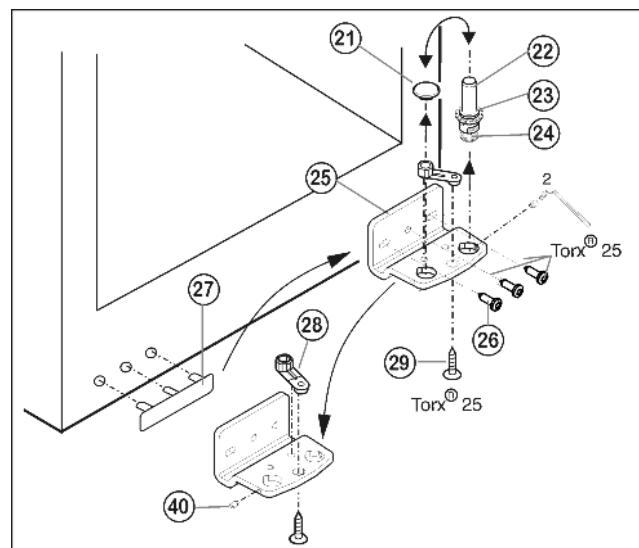

Fig. 7
- ▶ Using the accompanying Allen key, unscrew the threaded pin Fig. 7 (40) by about 1 turn.
- ▶ Turn and lift out the bearing pin Fig. 7 (22) together with the washer Fig. 7 (23) and adjustable-height foot Fig. 7 (24).
- ▶ Lift out the stopper Fig. 7 (21).
- ▶ Unscrew Fig. 7 (26) the turn hinge Fig. 7 (25).
- ▶ Fully unscrew the threaded pin Fig. 7 (40) and screw it in on the opposite side, at the turn hinge, until it is flush outside with the turn hinge.
- ▶ Unscrew Fig. 7 (29) the bearing element Fig. 7 (28), transfer it to the opposite location hole of the turn hinge and screw it firmly into place.
- ▶ Re-insert the stopper Fig. 7 (21) into the other hole.
- ▶ Carefully lift off the cover on the handle side Fig. 7 (27) and transfer it to the opposite side.
- ▶ Screw the turn hinge Fig. 7 (25) firmly into place on the new hinge side, possibly using a cordless screwdriver (with 4 Nm).
- ▶ Screw the bearing pin Fig. 7 (22) into place again, complete with washer and adjustable-height foot.
- ▶ Tighten the threaded pin Fig. 7 (40).
- ▶ Place the lower door from above onto the lower bearing pin *Fig. 7 (22)*.
- ▶ If necessary, align the doors to the appliance housing by way of the two oblong holes in the bottom turn hinge *Fig. 7 (25)* and middle turn hinge *Fig. 5 (13)*. To do so, unscrew the middle screw in the bottom turn hinge *Fig. 7 (25)*.